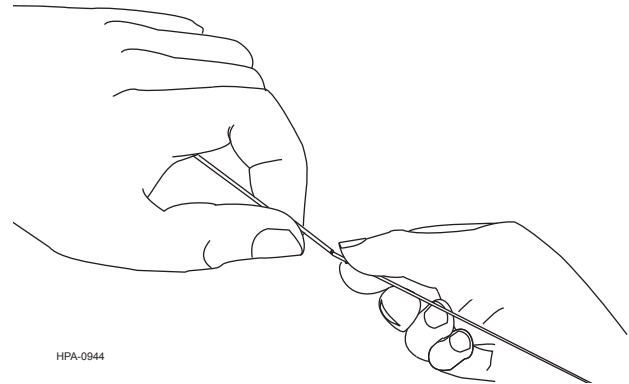

Figure 11
Step 3: Snap the buffer tube at the score mark by hand and carefully slide the severed section of buffer tube off the fibers (Figure 11).